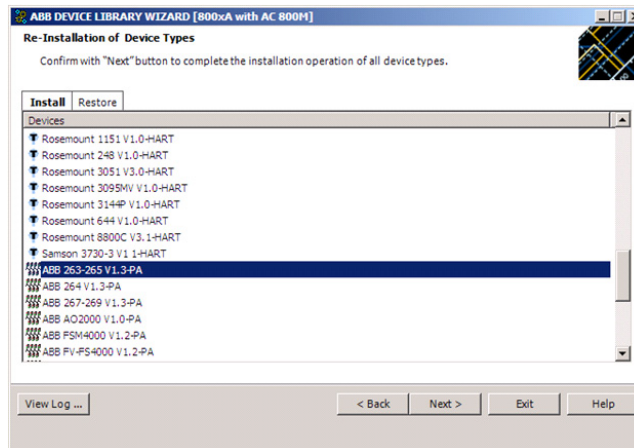

Figure 26. Re-install Device Types Dialog Box
- When the extraction process is completed successfully, the Device Types need to be re-installed on the 800xA System node. Click **Next** to launch the Re-installation of Device Types dialog box shown in Figure 26.